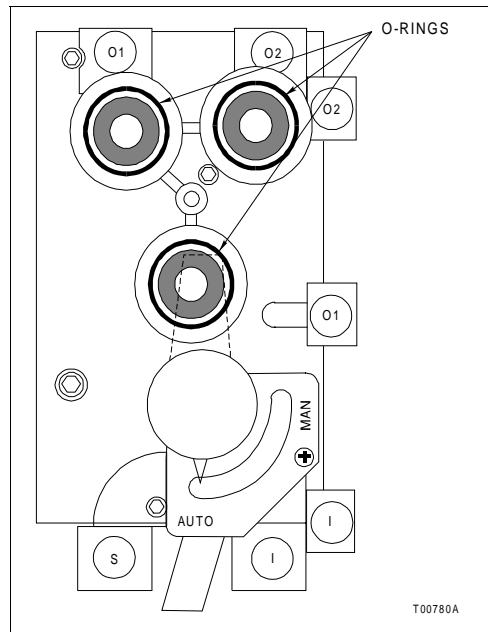

Figure 8-2. Manifold without Filter Cover
4. Replace and lubricate the 3 O-rings (Fig. 8-2) using the lubricant supplied in the kit.